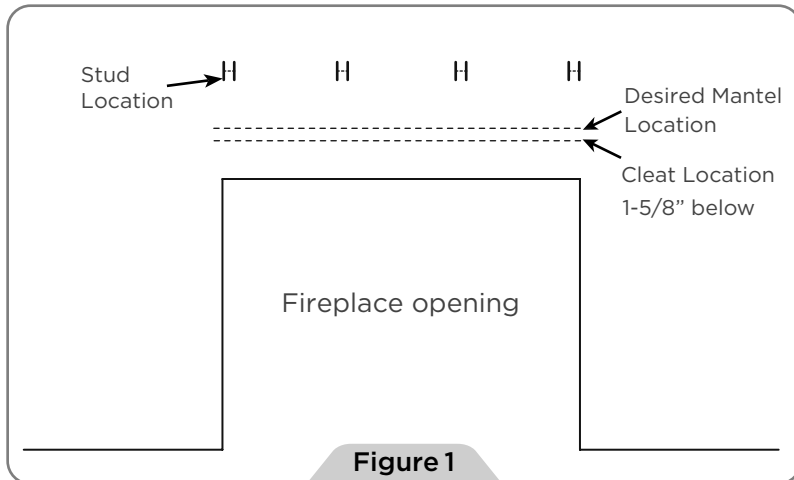

Figure 1
1. Decide at what height the mantel is to be installed. Using a level, mark the location with a pencil. Make another line 1-5/8" below the mantel line height **(Figure 1)**.
2. Using a stud finder, locate the studs along the area the mantel will be installed. Mark stud locations with a pencil **(Figure 1)**.